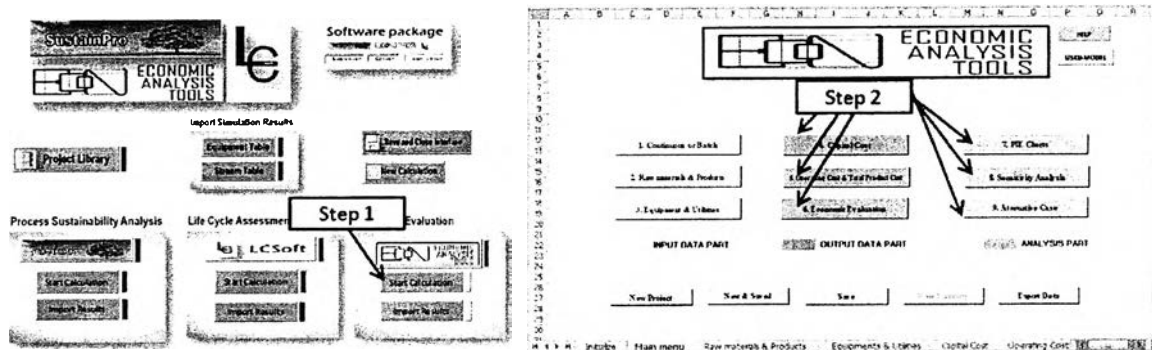

Figure B.25: Steps to perform economic evaluation (Continued)
Step 1: Click “Start Calculation” button below “ECON” button (Figure B.25).